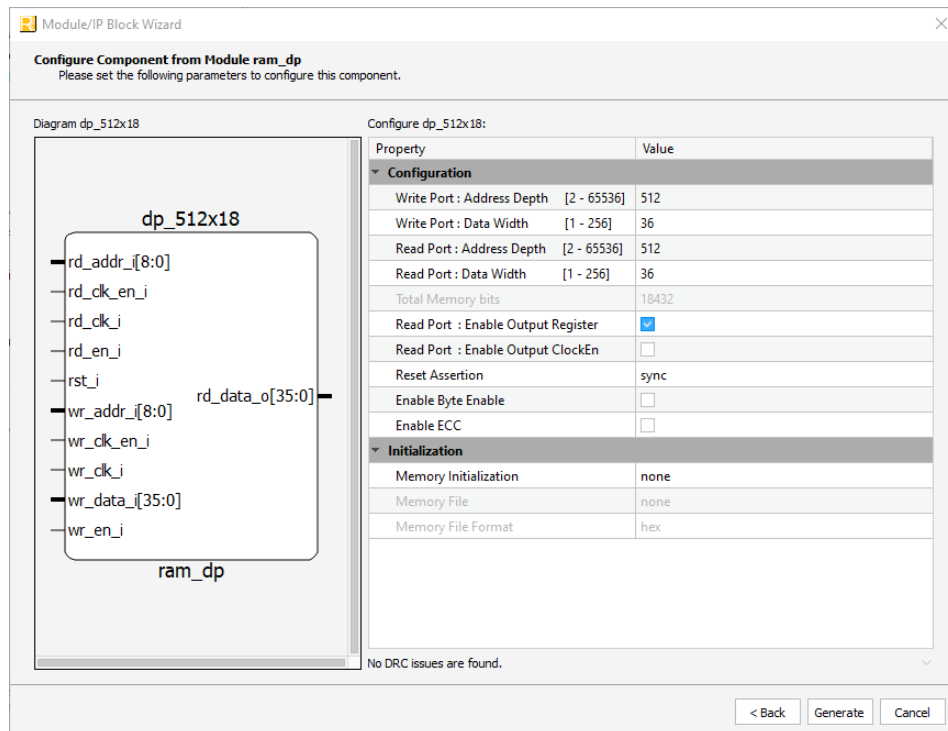

Figure 3.3. Example: Generating Pseudo Dual Port RAM (RAM_DP) Module Customization
3. In the **IP Configuration** page, customize the Dual Port RAM by selecting options as shown in Figure 3.3.